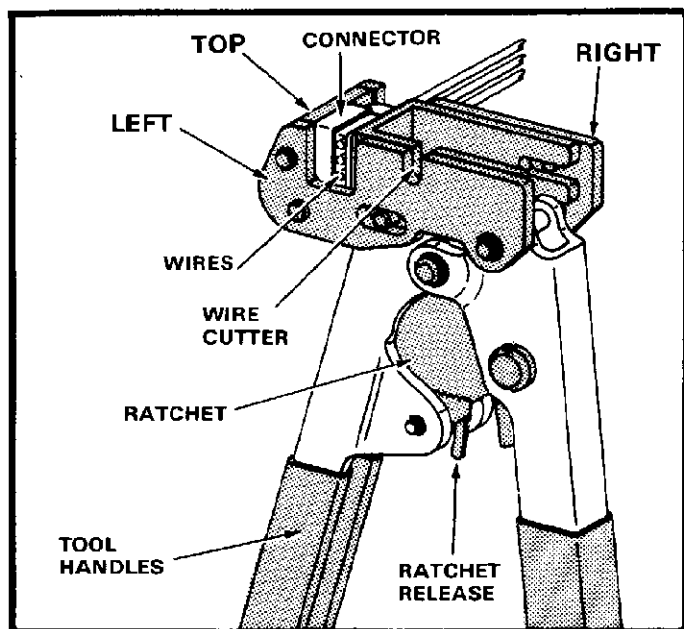

Fig. 3
5. Place connector between tool jaws with wire holes to the left, top (except half-tap connector), or right — depending on which is most convenient. See Figure 3.